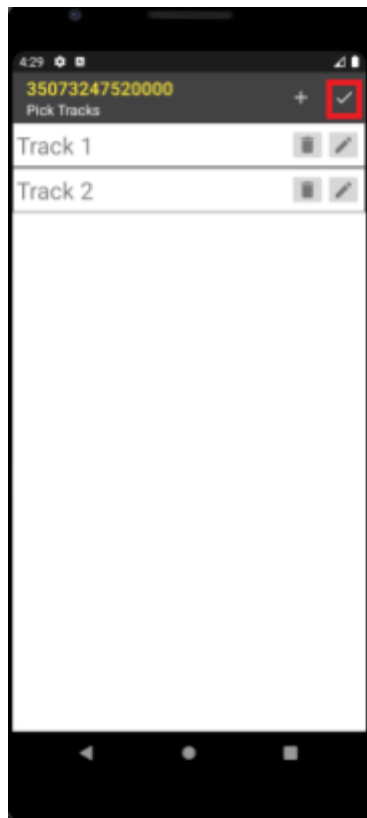

Figure 8
23. You Should now be back at the “Pick Tracks” screen and have a similar view to **Figure 8**. Press the check mark button in the upper right of the screen.